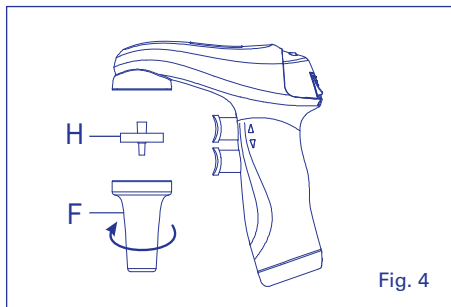

Fig. 4
Do not allow liquid to enter the instrument. Hydrophobic protection filter (H) could clog and suction be impaired. To replace filter (Fig 4), remove pipette, unscrew nose cone (F), pull out and replace membrane filter (H). Reassemble unit. Clean instrument with a damp cloth or with most laboratory disinfectants.
Ersetzen des Membranfilters (Abb. 4), Pipette abnehmen, Nasenkonus (F) abschrauben, Membranfilter (H) herausziehen und ersetzen.